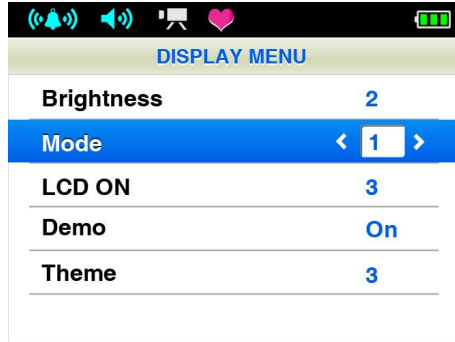

Figure 7. Display setting menu
setting menu as Figure 7:
**B Mode:** move the choice bar to the "Mode" item, then press left/right button to switch display mode (two kinds of display mode) as figure 7 and figure 8.